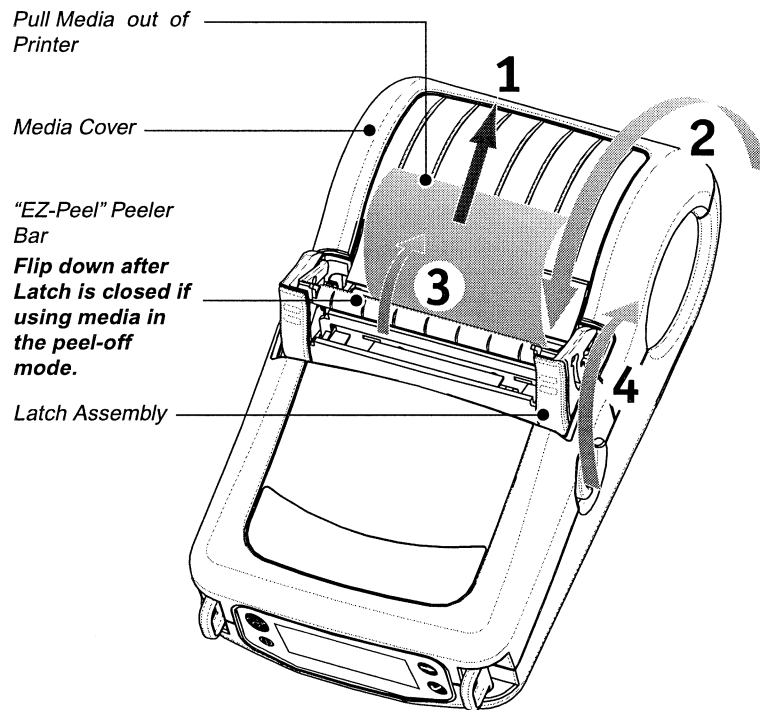

FIGURE 7
3. Refer to Figure 7. Close the Media Cover